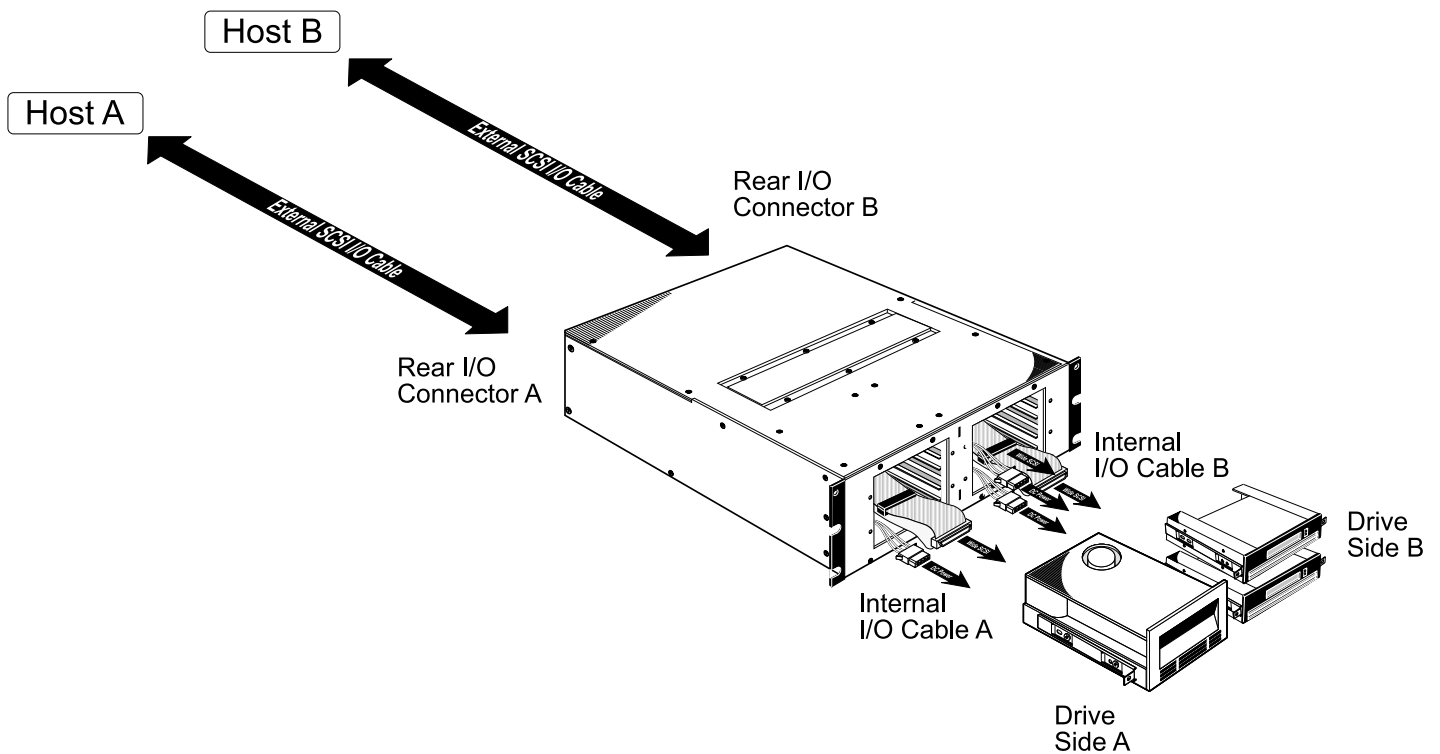

Figure 10: Typical Host Connection to the NetMedia
Note: For either single or dual-host configurations, make sure the installed drive(s) are connected to the appropriate internal I/O cable(s) for their intended hosts. Refer to Figure 10 below.
1. Unscrew the six (6) M3.5 screws that secure the top panel to the NetMEDIA chassis and remove the top panel (Figure 10).
3. To reinstall, secure the top panel back onto the chassis using the same six (6) M3.5 screws.